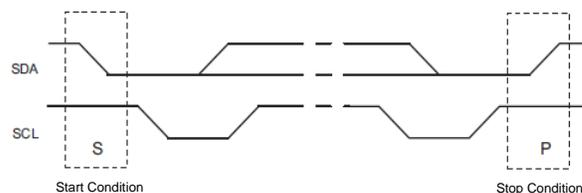

Figure 8: Start and Stop Conditions
Start (S) and stop (P) conditions are signaled by the master device, which signifies the beginning and end of the I²C transfer. The start condition is defined as the SDA signal transitioning from high to low while the SCL is high. The stop condition is defined as the SDA signal transitioning from low to high while the SCL is high (see Figure 8).